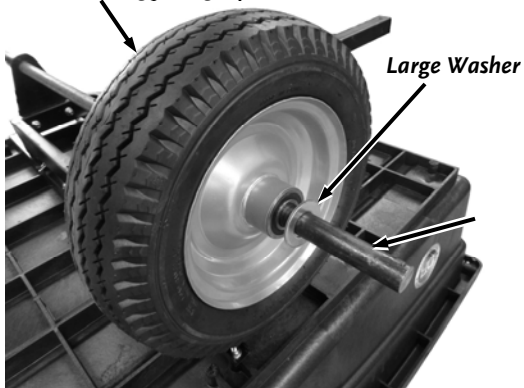

Figure 10
4. **For Machines with Dual Wheels only:** Slide a Wheel onto the Axle with the Valve Stem facing in and install a Washer against the Wheel (**Figure 10**).